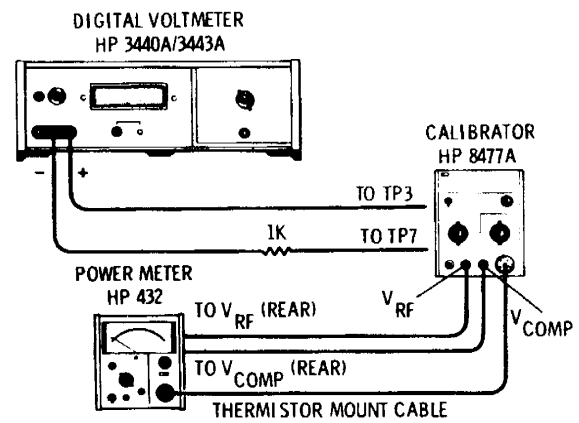
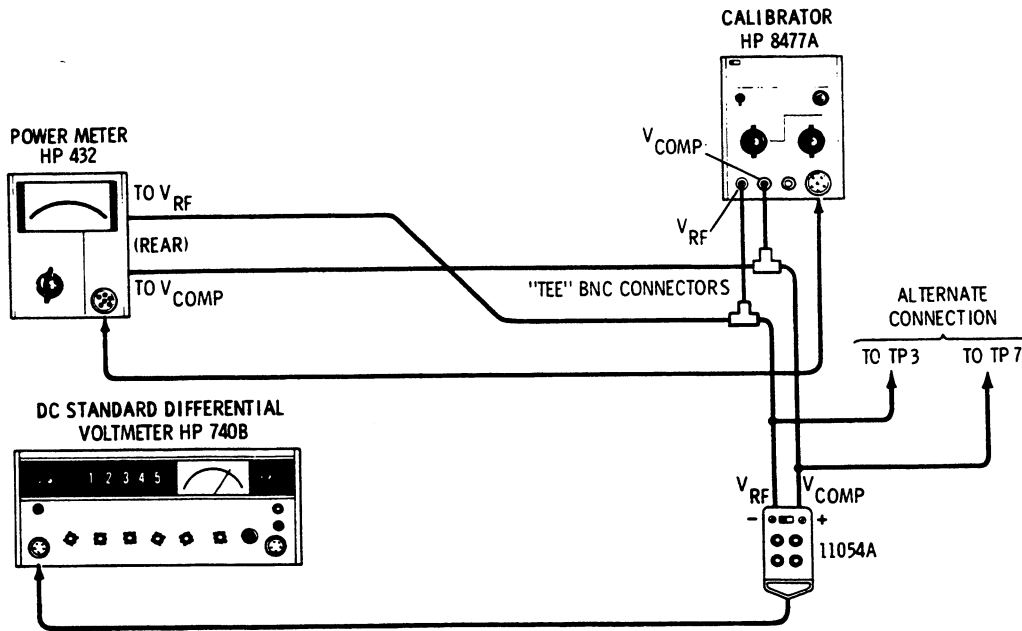

Figure 2. Zero Range Test Setup
Figure 4. Range Accuracy Test Setup
- b. Connect the equipment as shown in Figure 2. Connect the low side of the digital voltmeter to Test Point 7 with a 1K resistor in series with the test lead. The high side of the DVM is connected to TP3. TP7 is also available at the  $V_{comp}$  BNC jack on the front panel of the 8477A and TP3 at the  $V_{RF}$  jack. Use BNC tees on these connectors to monitor the test point voltages there, if desired. Except for the different voltmeters used, the equipment setup is identical to Figure 4.
After making the following instrument settings, connect equipment as shown in Figure 4.